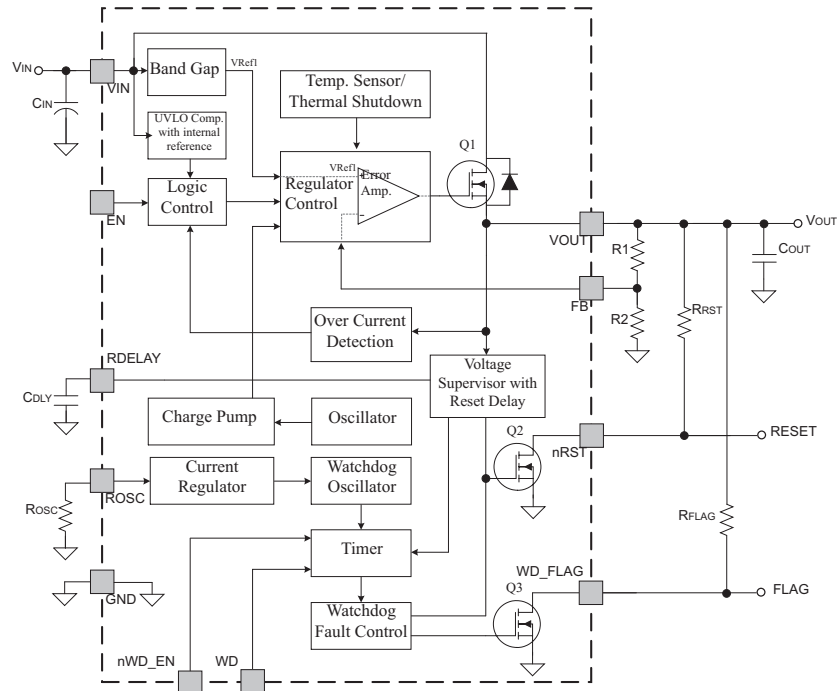

Figure 15. TPS7A6401-Q1 (Adjustable Output Voltage With Flag Output)
- R1, R2 = feedback resistors (see Figure 15)
- (2)